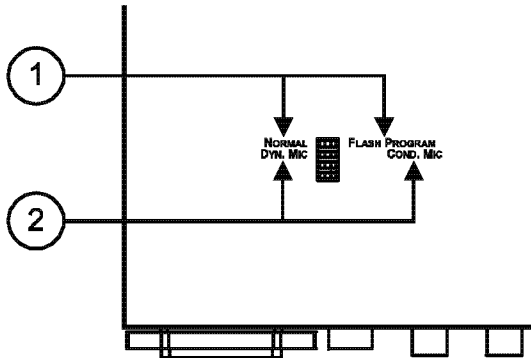

Figure 2: VP-23C Presentation Switcher – Underside View
Figure 2 and Table 3 describe the rear panel of the **VP-23C**:
1 Use the COND. MIC / DYN. MIC switch (refer to item 2 in Figure 2 and in Table 3) to select a dynamic microphone or a condenser